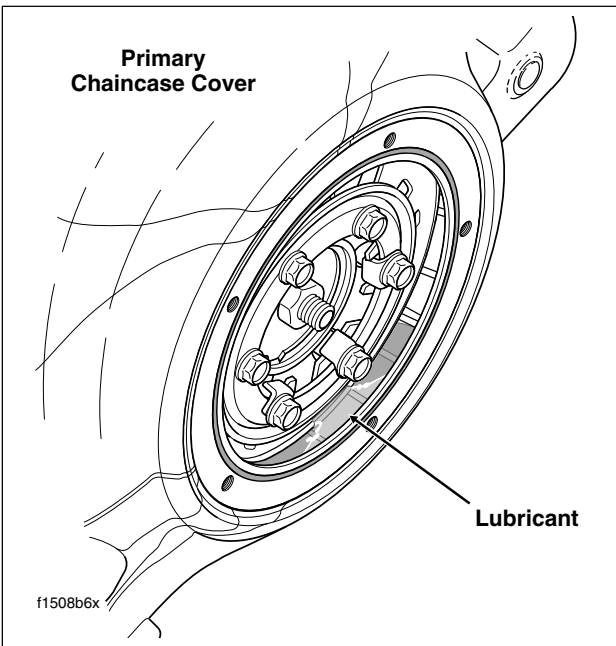

Figure 6-43. Fill Primary Chaincase With Lubricant
24. Pour 32 ounces (946 ml) of Harley-Davidson PRIMARY CHAINCASE LUBRICANT through the clutch inspection cover opening, Part No. 99887-84 (quart) or Part No. 99886-84 (gallon). See Figure 6-43.